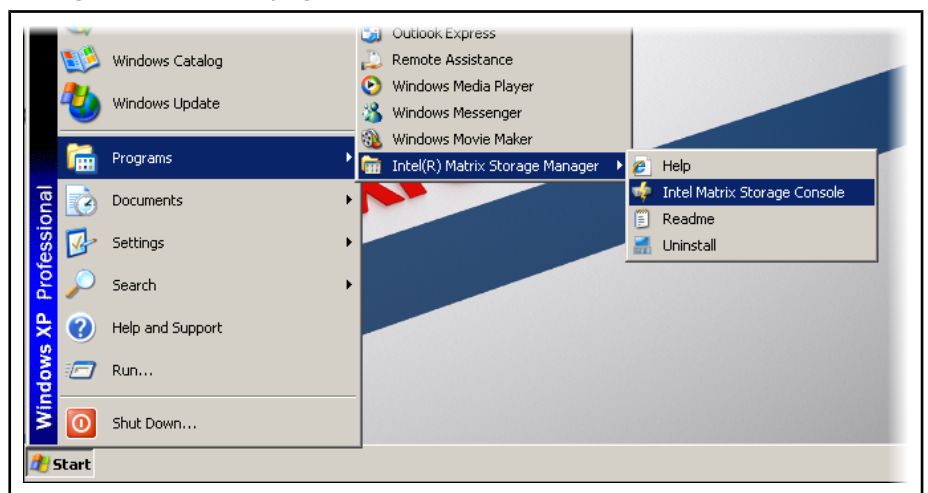

Fig.9-29: Path "Intel Matrix Storage Console"
After the installation the "Intel Matrix Storage Console" is available at **Start ► Programs ► Intel(R) Storage Manager**, see fig. 9-29 "Path "Intel Matrix Storage Console" on page 87.